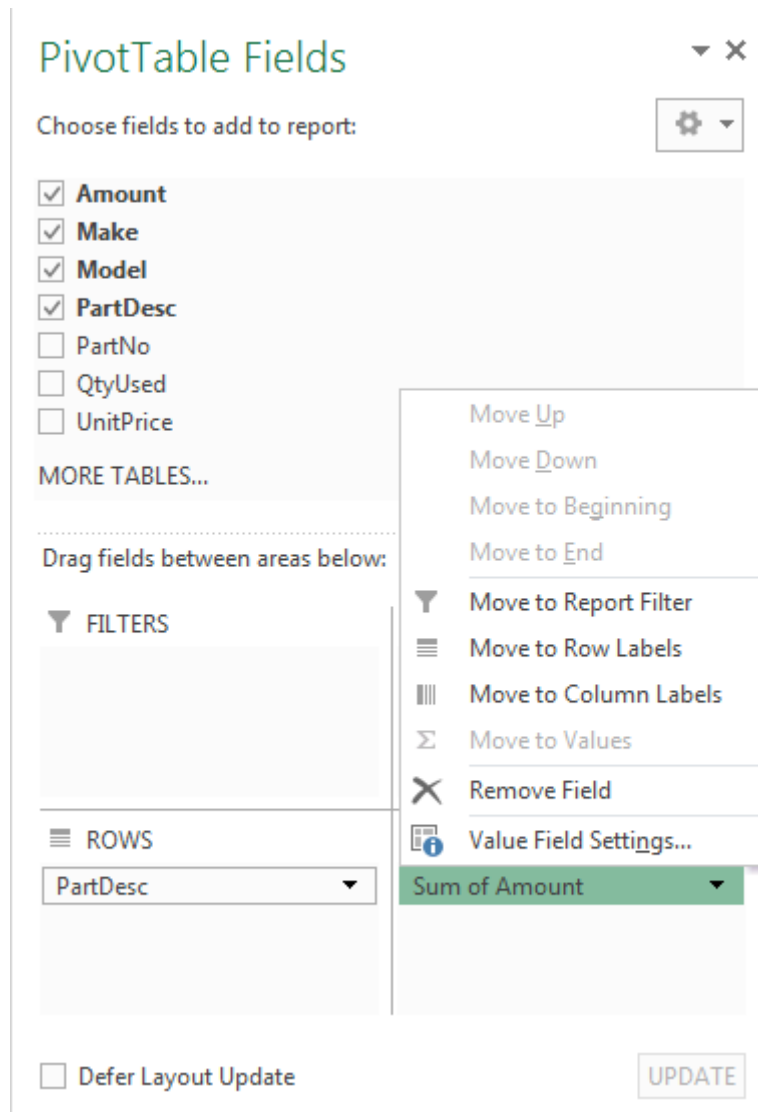
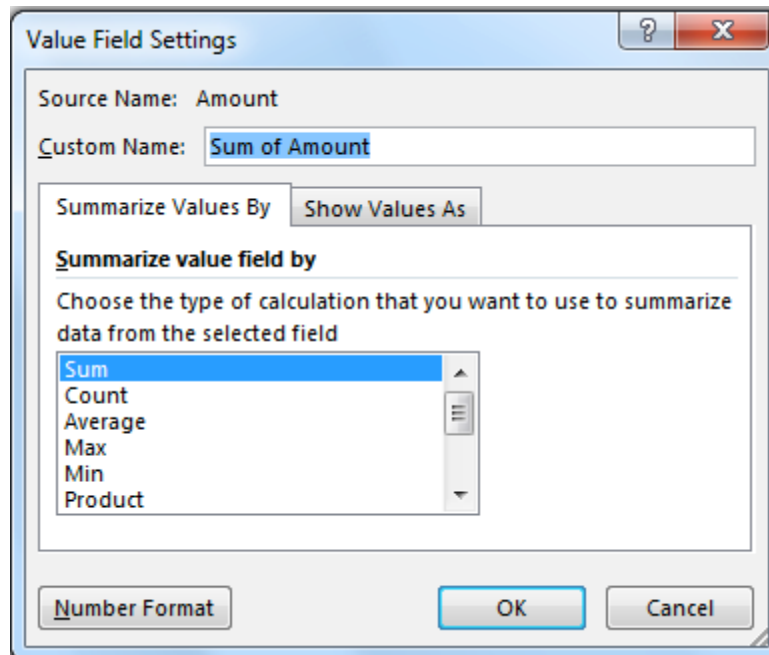
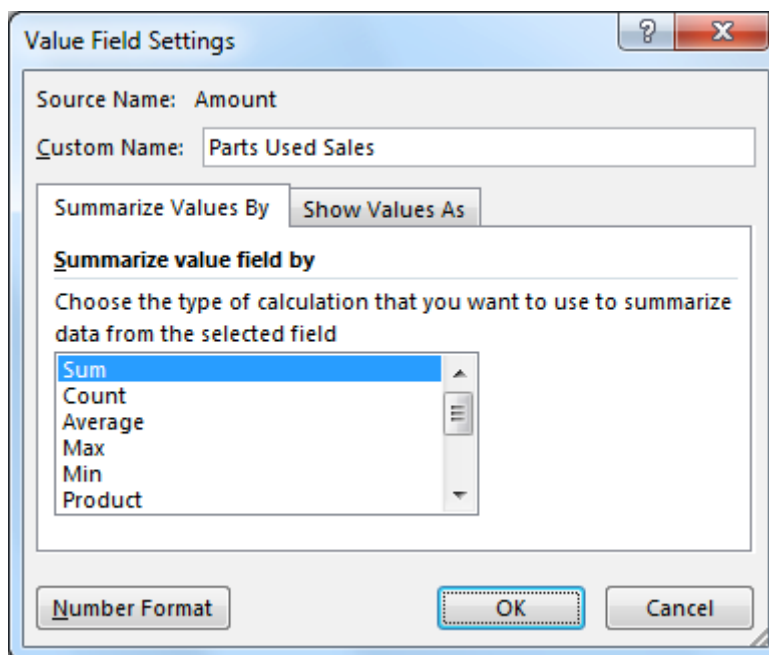
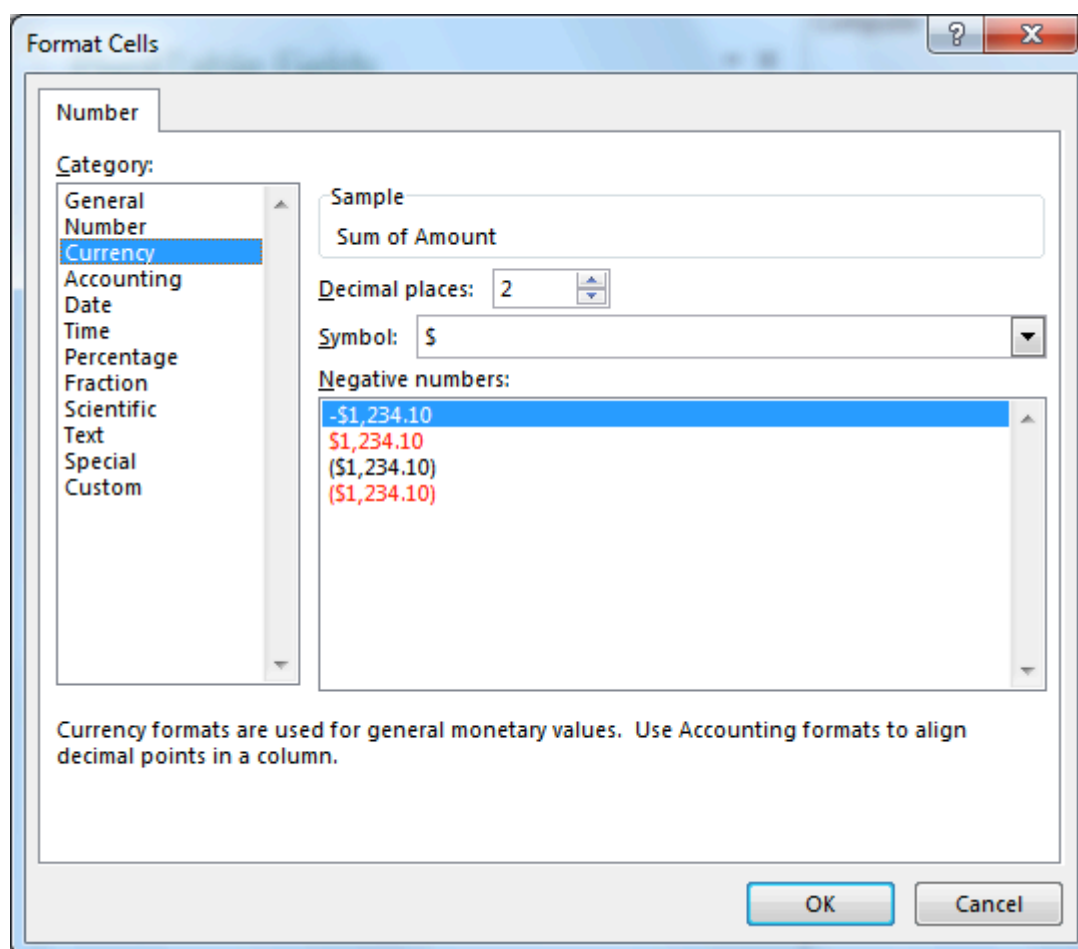

Figure 14: Value Field Settings Option
Figure 15: Value Field Settings Window
Figure 16: Changed Title Field Name
Figure 17: Changed Number Format
4. Format *Sum of Amount* field: To change the properties for the Sum of Amount field, click on the field title ("Sum of Amount") in the values area. Then, choose the **Value Field Settings** option (Figure 14). A new window opens as in Figure 15. In the **Custom Name** area, change the name to "Parts Used Sales" (Figure 16). In the **Number Format**, change the Numbers to "Currency" (Figure 17) if there is another format specified. Click Ok when finished. In the diagram, the *Sum of Amount* field has changed to *Parts Used Sales* (Figure 18).